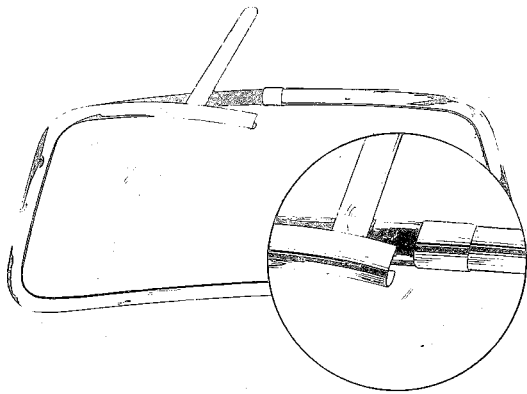

Fig. 8-32. Removing trim moulding
3. Remove the trim moulding by levering out the ridge of the rubber strip from the trim moulding with a moistened wooden putty knife and releasing the trim moulding in the middle with another putty knife as shown in Fig. 8-32. Lever off the moulding carefully while releasing the rubber strip with the other putty knife.